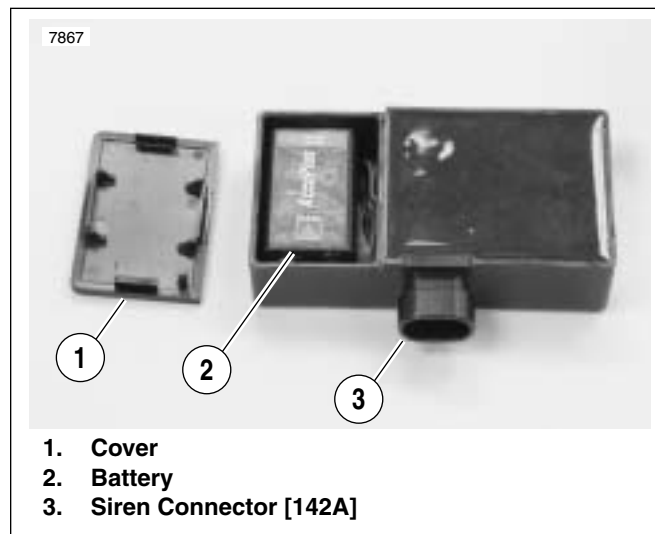

Figure 3-54. Siren Battery Compartment
2. See Figure 3-54. Remove battery cover.
3. See Figure 3-54. Replace battery by removing old battery from polarized battery clip. Install a **new** 9 volt nickel metal hydride battery. See the Touring Parts Catalog for the correct part number.
4. See Figure 3-54. Reinstall battery cover (1).
- b. Align battery cover (1) with case placing round corners on cover away from connector [142A]. Snap cover into place.